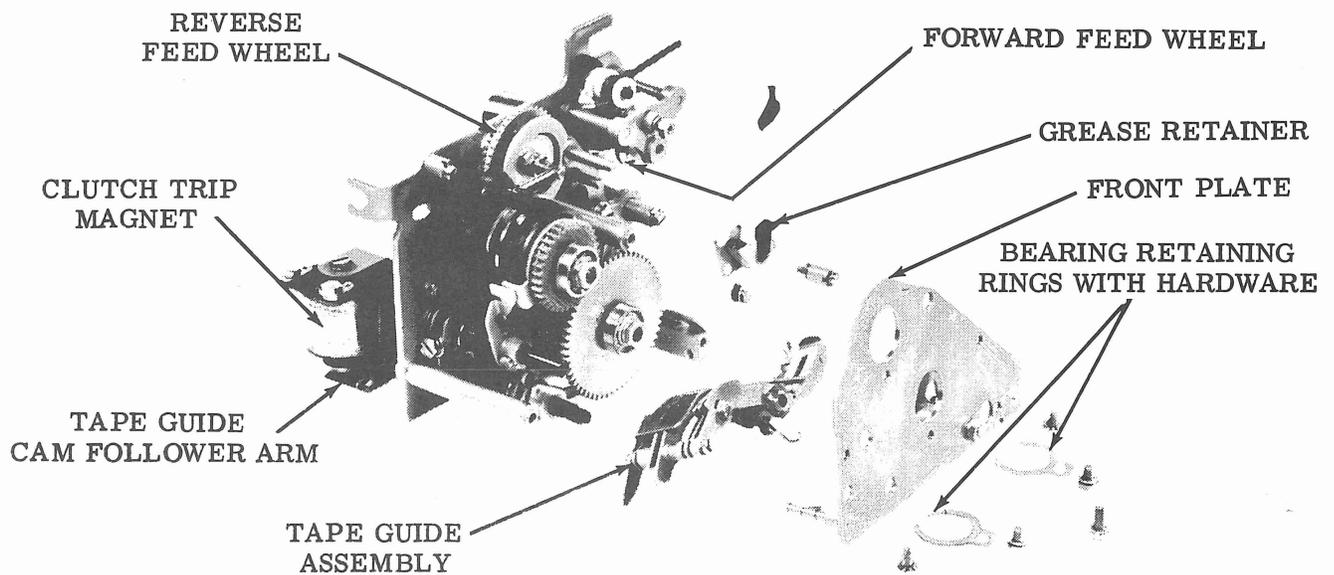

Figure 10 - Punch Backup Mechanism, Front Plate Removed
(2) Remove the magnet assembly by sliding the armature bail (TP320370) out of the lever (TP320374).
**3.10 To separate the front and rear plates (Figure 10):**
**3.13 To remove the drive shaft assembly (TP320380) (Figure 10):**
- 3.14 To remove the intermediate shaft assembly (TP320378) (Figure 10):